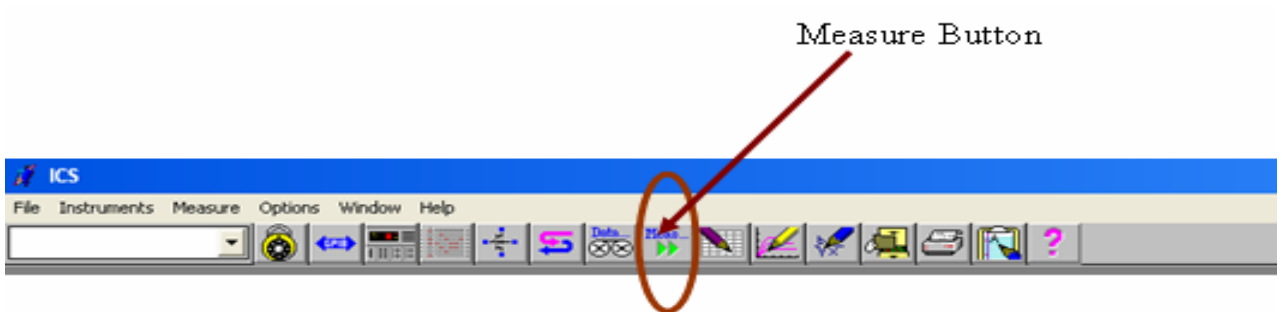

Figure 7: ICS Menu bar, clicking on Measure icon
2. Click on Measure icon from the menu bar as shown in Figure 7